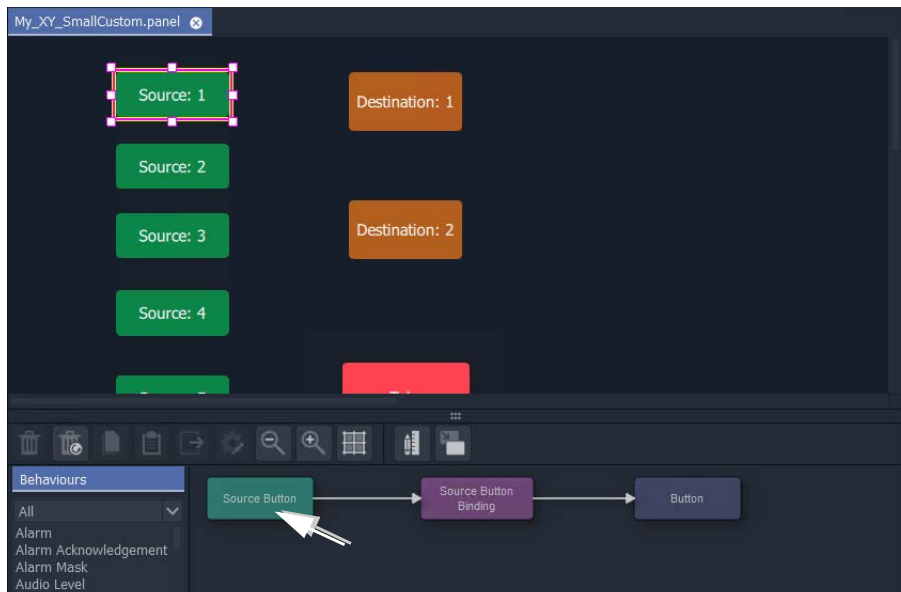

Fig. 13-45: Double-click on 'Source Button' Behaviour
- 2 Select a Source button in the XY Panel and double-click on the 'Source Button' Behaviour in the editor. See Figure 13-45.